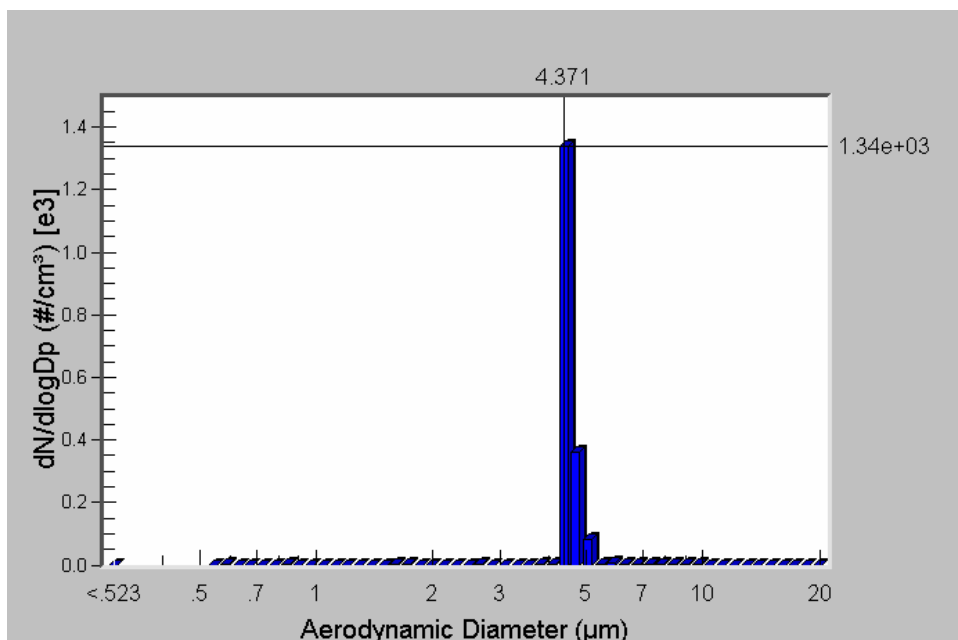

Figure 3-3
2. Press the left mouse button to display the values. Figure 3-3, shows how the data values are displayed for an APS™ spectrometer (diameter and number concentration).